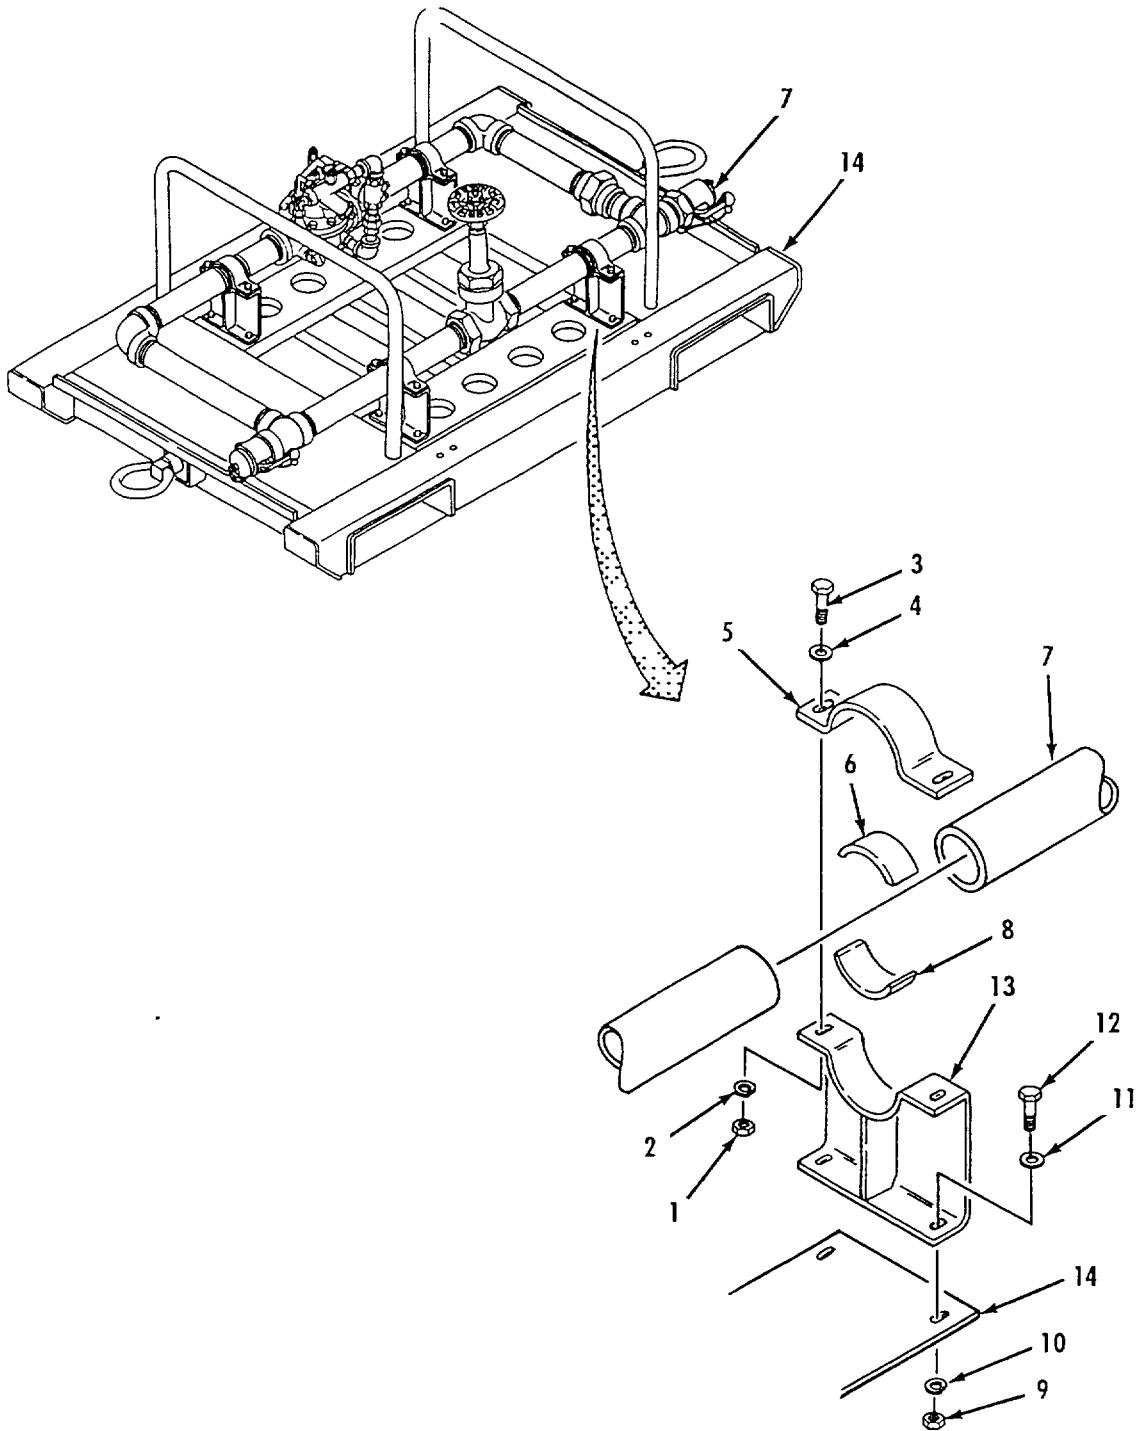

Figure 4-6. Pressure Reducing Assembly Removal.
a. Removal. Refer to figure 4-6.
- (1) Remove two nuts (1), lockwashers (2), cap screws (3) and flat washers (4).
- (2) Remove strap (5) from pressure reducing assembly (7).
- (3) Remove foam (6) from strap (5).
- (4) Repeat steps (1) through (3) for three remaining straps.
- (5) Using two personnel, remove pressure reducing assembly (7) from skid (14).
- (6) Remove two nuts (9), lockwashers (10), cap screws (12) and flat washers (11).
- (7) Separate bracket (13) from skid (14).
- (8) Remove foam (8) from bracket (13).
- (9) Repeat steps (6) through (8) for three remaining brackets.
(17) Install gasket (10) in female coupling half (11)
(18) Install gasket (1) in dust cap (2)
(19) Connect split ring (9), chain (8) and split ring (7) on female coupling half (11) and dust plug (6)
(20) Connect split ring (5), chain (4) and split ring (3) to male coupling half (17) and dust cap (2)
f. Installation. Refer to figure 4-6
(1) Position bracket (13) on skid (14).
(2) Align mounting holes in bracket (13) with skid (14), then install two flat washers (11), cap screws (12), lockwashers (10) and nuts (9).
(3) Apply foam tape (8) to saddle on bracket (13).
(4) Repeat steps (1), (2) and (3) for three remaining brackets.
(5) Using two personnel, position pressure reducing assembly (7) on skid (14).
(6) Apply foam tape (6) to saddle of strap (5).
(7) Position strap (5) over pressure reducing assembly (7) and align mounting holes with bracket (13).
(8) Install two flat washers (4), cap screws (3), lockwashers (2) and nuts (1).
(9) Repeat steps (6), (7) and (8) for three remaining straps.